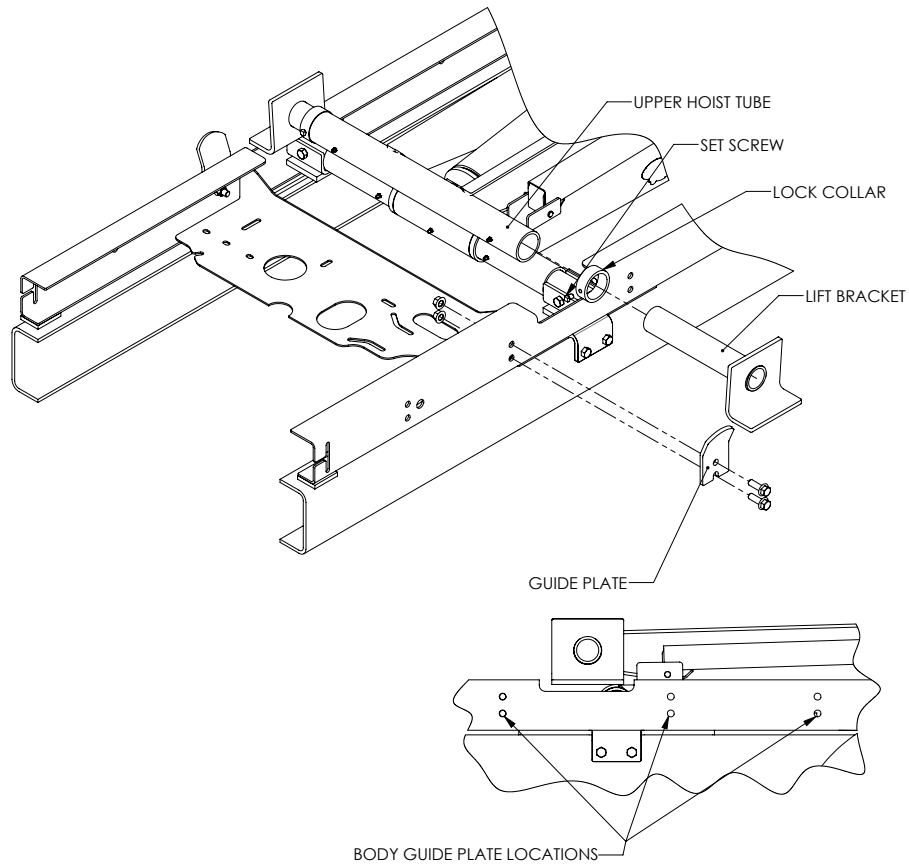

Figure 13
7. Slide a lock collar onto each lifting shaft, and then slide the shafts into each end of the upper hoist tube (**Figure 13**).